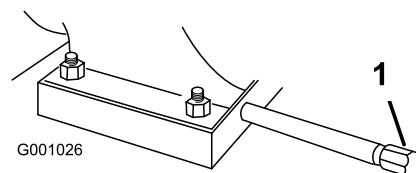

Figure 49
1. Clean the area around the oil drain cap (Figure 49).